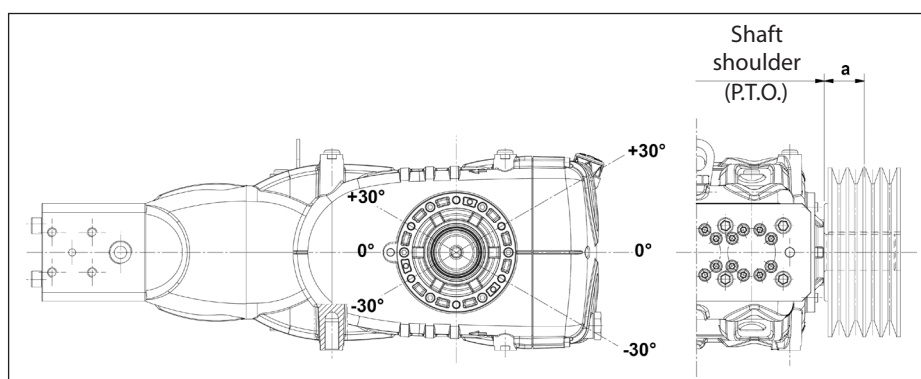

Fig. 12
The transmission is considered adequate if the load is applied to a maximum distance $a = 40$ mm from the shaft shoulder (P.T.O) as shown in Fig. 12.
- b) Use high performance belts – for example **XPB** instead of **SPB** – as a lower quantity of belts for the same transmitted power may be necessary and a consequent shorter resulting distance compared to the shaft shoulder (P.T.O) "a" of Fig. 12.
- e) Follow the direction of the belt pull as shown in Fig. 12 for other needs, contact our **Technical** or **Customer Service Departments**.